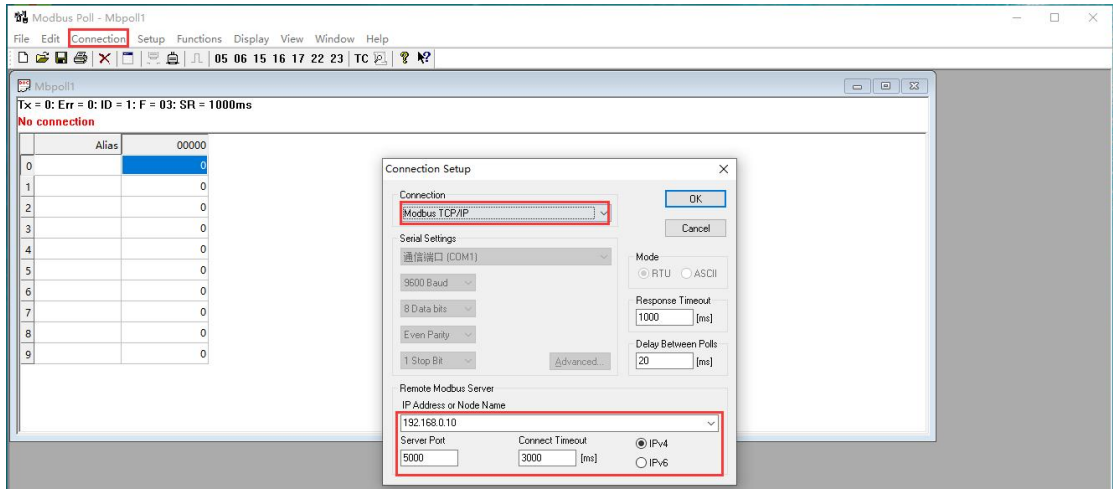

Figure 6-24 MODBUS \_ TCP Host Parameter Settings
4) Click "Connection" to create a connection, and the MODBUS \_ TCP end setting parameters are shown in Figure 6-24.